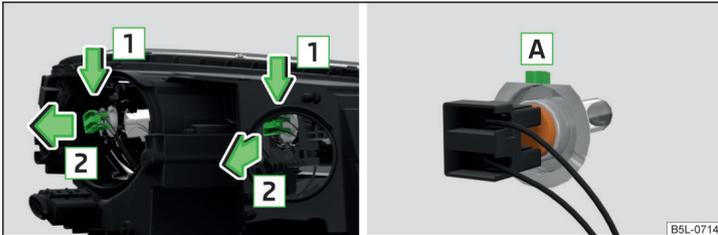

Fig. 198 Headlight with halogen bulb: Bulbs for low and main beam
- Disconnect the relevant connector with the light bulb in the direction of arrow **1** » Fig. 198.